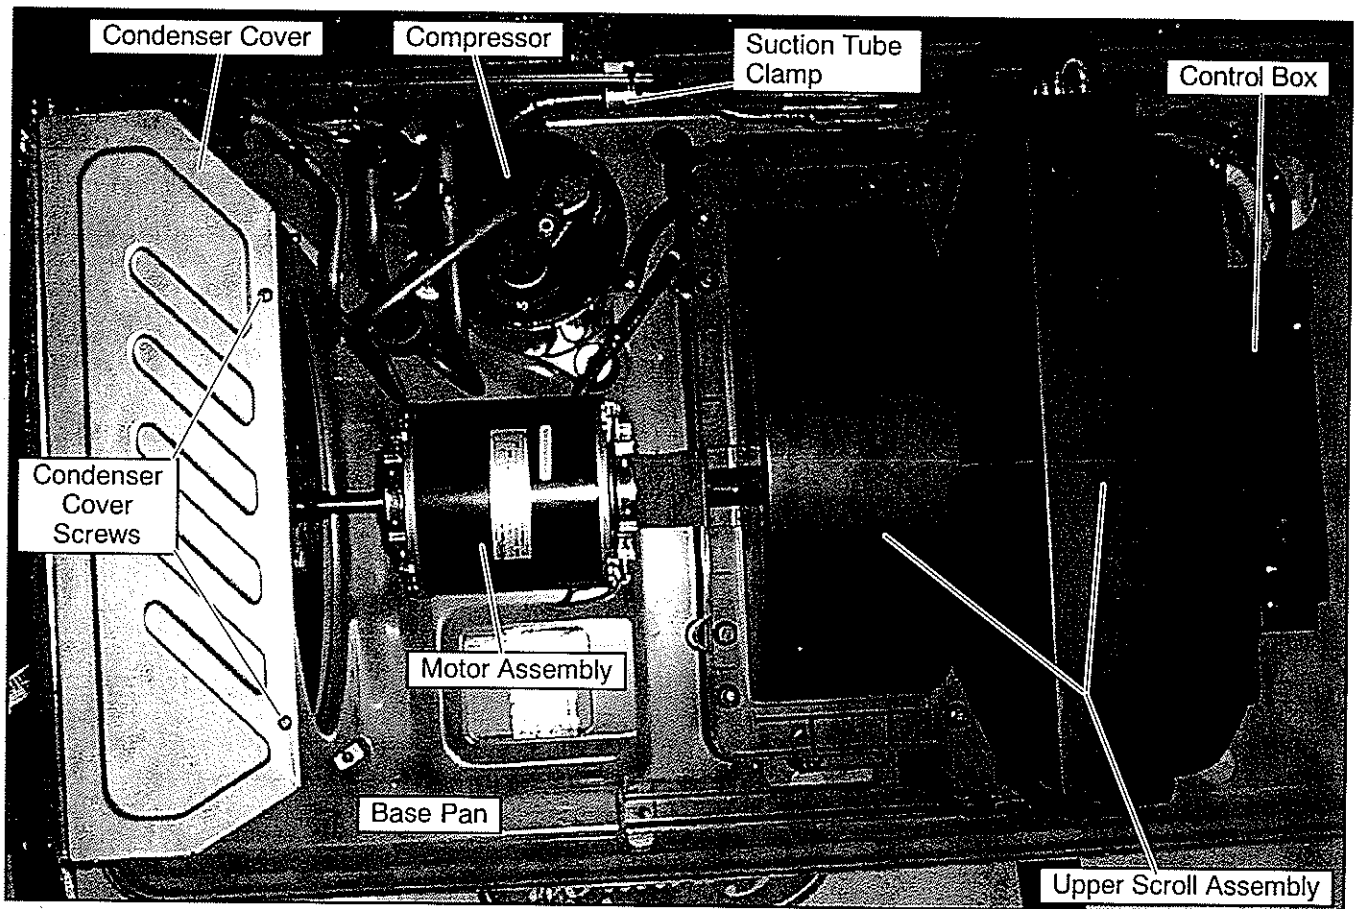

Figure 3-24 Air Handling System With Motor Assembly
- d. Remove 4 screws securing the condenser cover to the condenser orifice. (See Figure 3-24.)